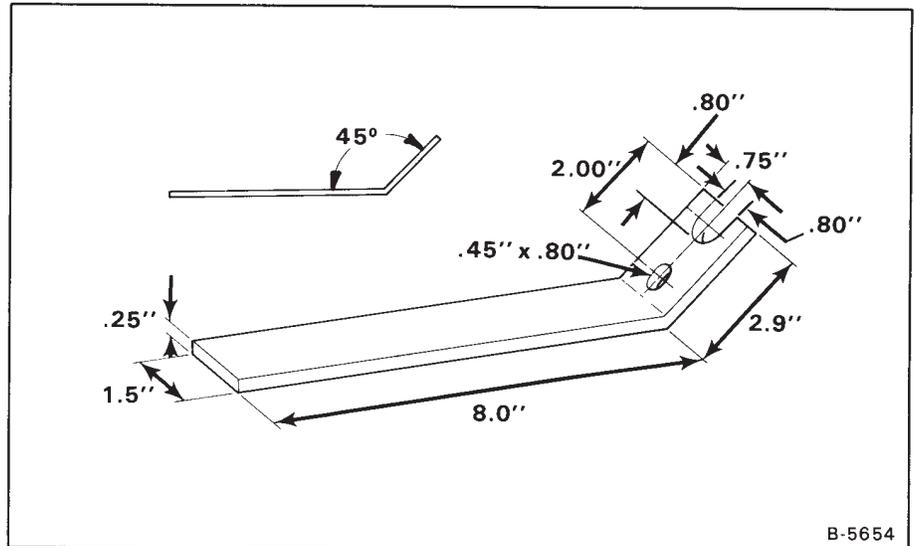
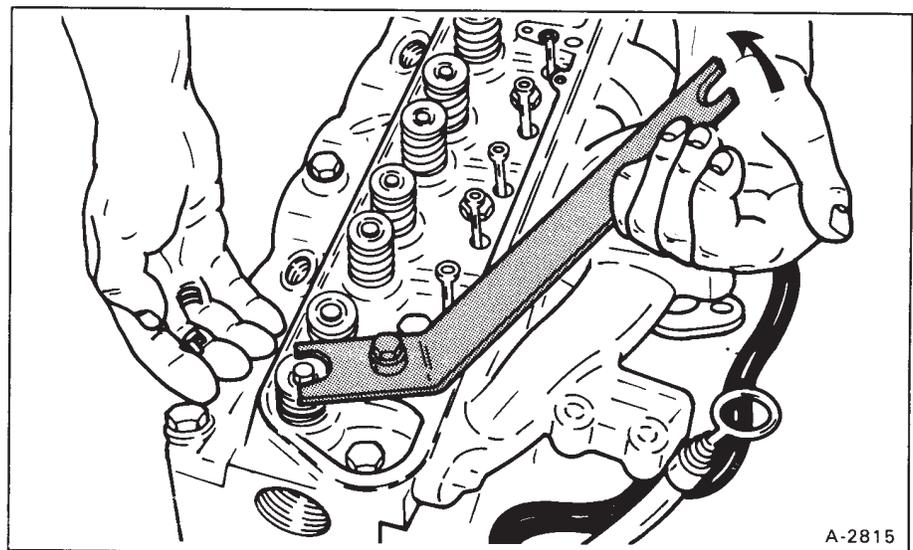

Fig. 3 Spring Compressor Tool (Made Locally)
Fig. 4 Removing Valve Spring
7. Use the spring compressor tool (made locally) (Fig. 3) as shown to compress the spring (Fig. 4).